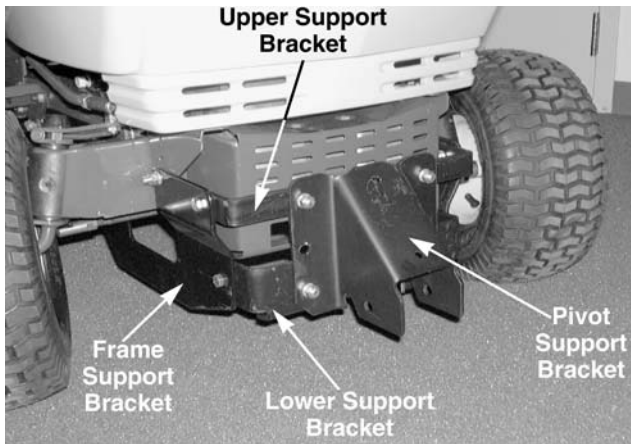

Figure 12-75.
- Secure the upper and lower support brackets to the pivot support bracket with four hex bolts, lock washers, and hex nuts. Tighten using a 9/16" socket. See Figure 12-75.
- Secure the upper and lower support brackets to the frame support brackets with four hex bolts, lock washers, and hex nuts using a 9/16" socket. See Figure 12-75.